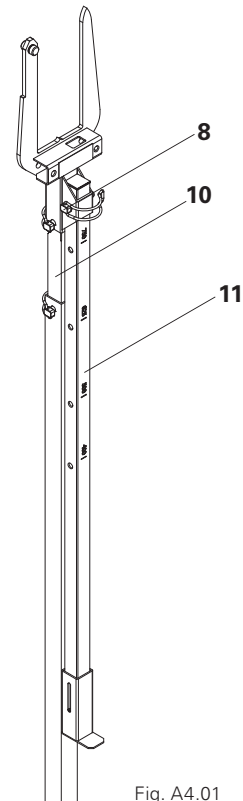

Fig. A4.01
The Distance Device MF-Plus (10) can be adjusted to accommodate different spacings thus eliminating the need to measure the cross beam spacings. In addition, the telescopic tube can be extended in order to shutter the cross beams for higher slabs with personnel positioned on the floor below. (Fig. A4.01)